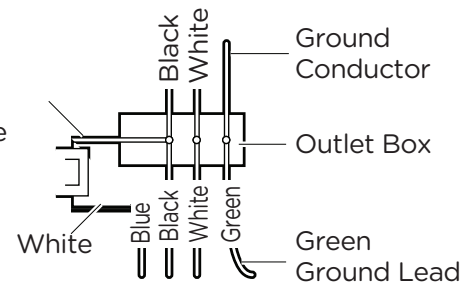

Figure 9
- Attach the blade decoration and blade bracket to the blade (fig. 9).
- Apply the blade screws and secure properly (fig. 9).
If you wish to control the light from a wall switch and the fan from the pull chain switch or if you wish to control both fan and light from wall switches, refer to the wiring diagrams in Figures 9 and 10.